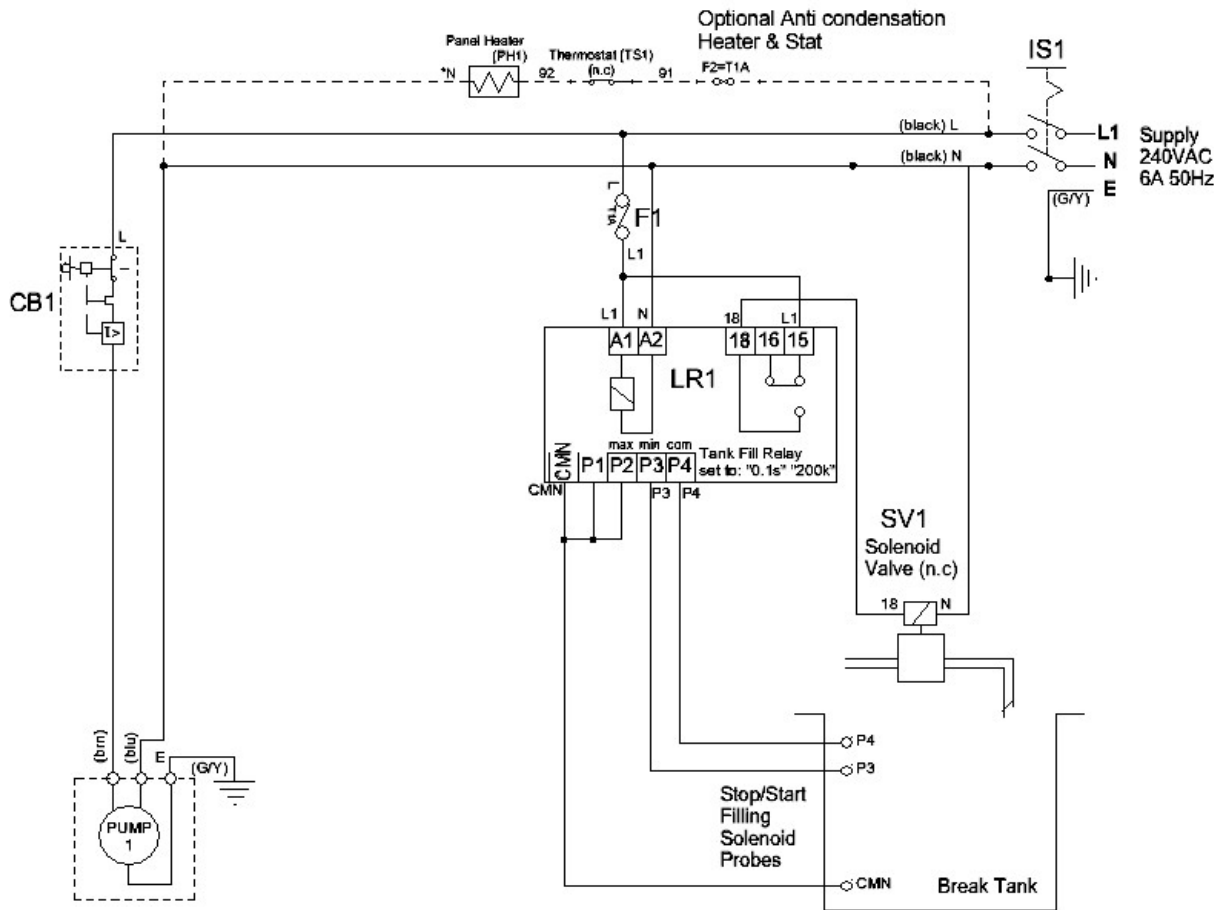

Fig. 1.7 Typical example of AquaBreak electrical connections.
- 1.3.6.3 Connect incoming electrical mains supply to identified terminals on isolator IS1 in control panel (see fig. 1.7). Ensure voltages and frequency indicated on the motor nameplates and wiring diagrams correspond with supply mains data and that the supply fuse type & rating is correct for the total current rating of the equipment.